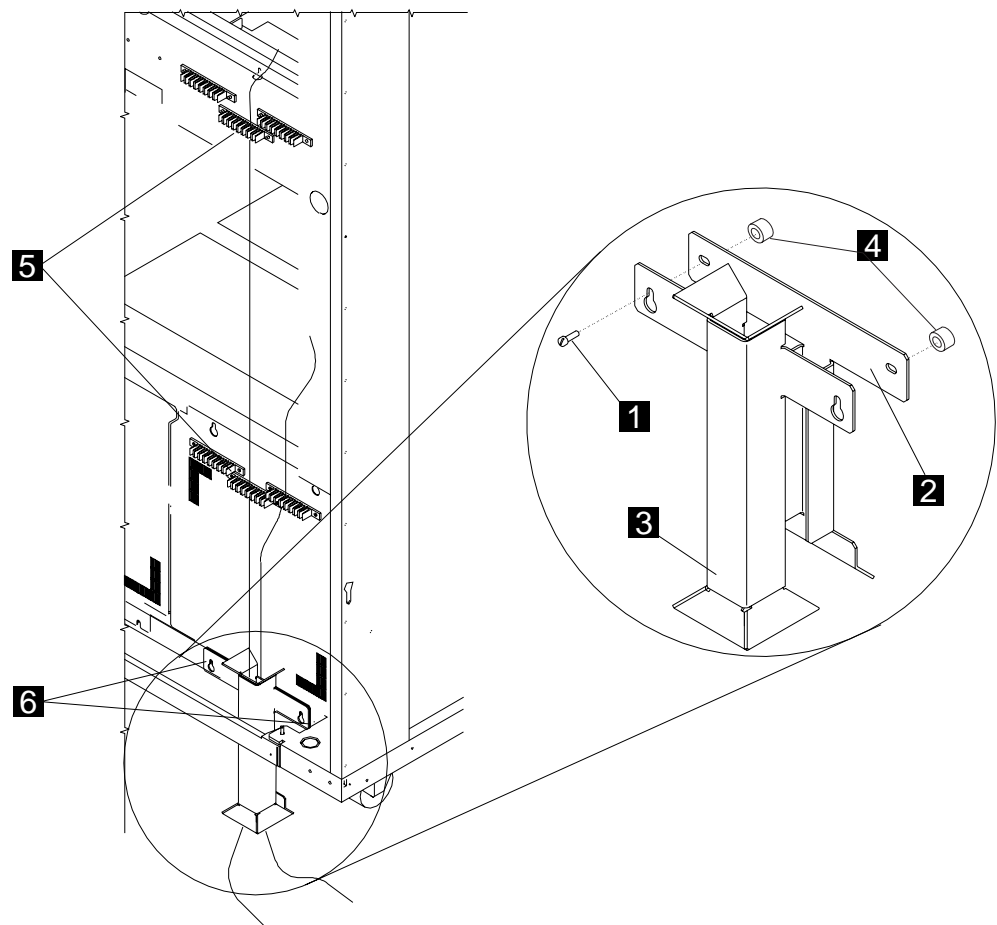

Figure 4-4. Routing the Optical Fibers
- If you have a bracket **2** with PN 58G5503 and the guide **3** with PN 58G5504 (see Figure 4-4) install as follows:
- Step b. \_\_\_ **Install** the two spacers **4** (PN 58G5711) and the bracket **2** (PN 58G5503) using two screws **1** (PN 1621214) See Figure 4-4